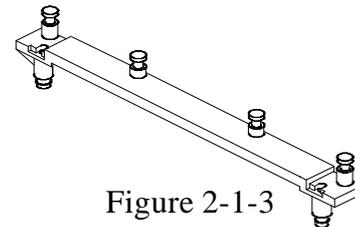

Figure 2-1-3
- **Heat Sink Support Base (HSSBASE)**- Plastic support bar mounted to the mainboard under the ATX heat sink. (Refer to Figure 2-1-3)